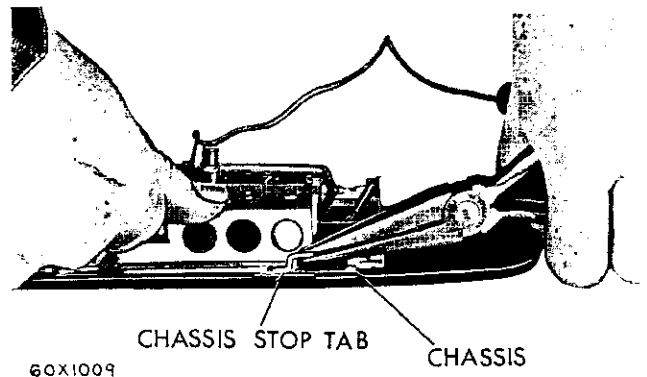

Fig. 28—Aligning the Chassis Tabs
(3) If the flip angle was incorrect, bend the chassis top tab (Fig. 28) rear of the solenoid, toward the glass to reduce the flip angle or away from glass to increase the flip angle. Do not bend the tab more